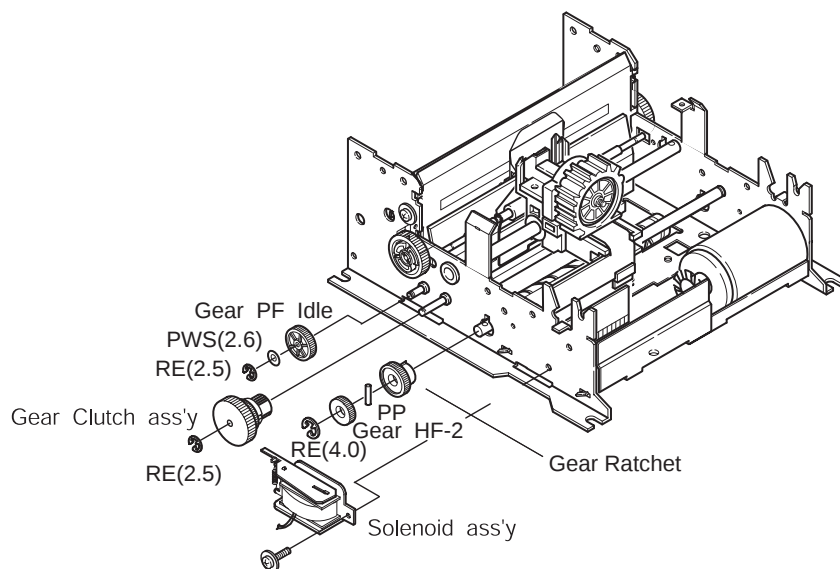

Figure 4-4 Disassembling Clutch Assembly
7. Disassemble the Gear Clutch ass'y and the Gear PF idle from the Shafts.(Figure4-4)
8. Disassemble the Solenoid ass'y from the Frame Assembly. (Figure4-4)
9. After disassembling the Gear HF-2, disassemble the PP in the Lead Cam Hole. (Figure4-4)
10. Disassemble the Gear Ratchet from the “L” part of the Lead Cam. (Figure4-4)